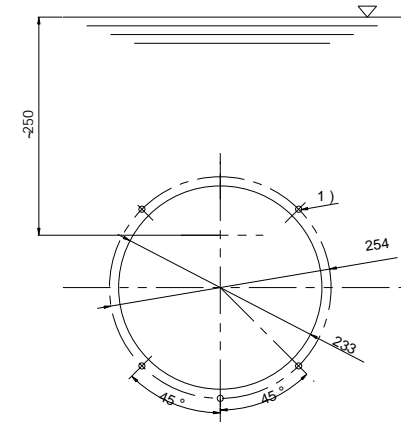

Figure 1
- a) Use 4 screws(M6*20) to fix the counter current jet plate to the pool wall hole. (Figure 1)